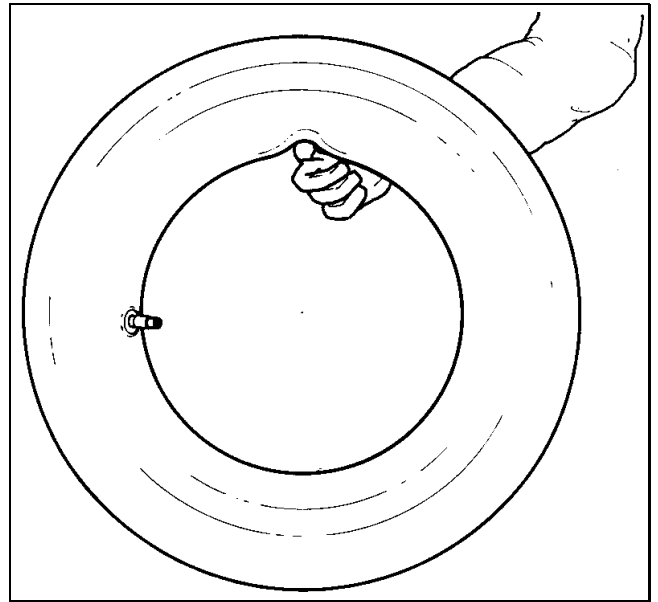

Fig.24
**C.** Inflate the tube slightly: if held with the indexfinger it should bend a little (Fig.24).